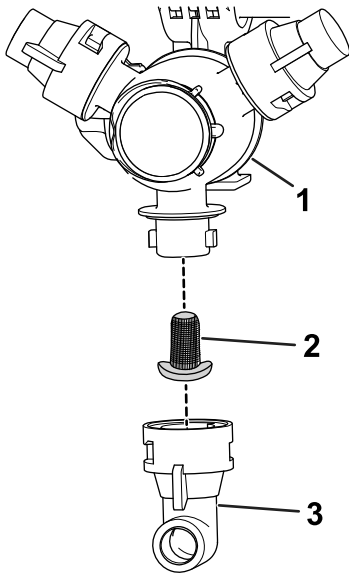

Figure 80
2. Remove the nozzle from the spray turret (Figure 80).
3. Remove the nozzle filter (Figure 80).
5. Install the nozzle filter (Figure 80).
6. Install the nozzle onto the spray turret (Figure 80).